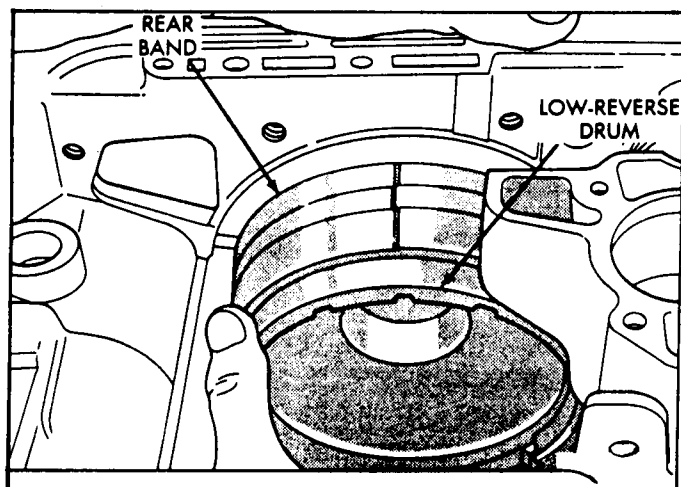

Figure 128
5. Install the low/reverse drum through the band, use slight pressure rearward and turn it in clockwise direction until drum seats in overrunning clutch. (See Figure 128).